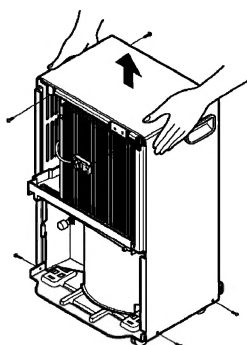

Figure 13
2. Remove 1 screws that fasten Control box. (See Figure 13)
4. Lift the Cabinet from the base.(See Figure 13)